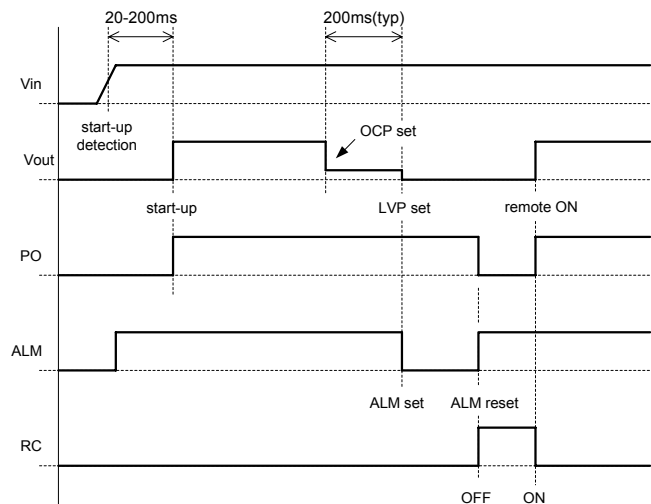

Fig.3.4 Sequence time chart
■ The sequence time chart of Vin, Vout, PO, ALM and RC pins is shown in Fig.3.4.